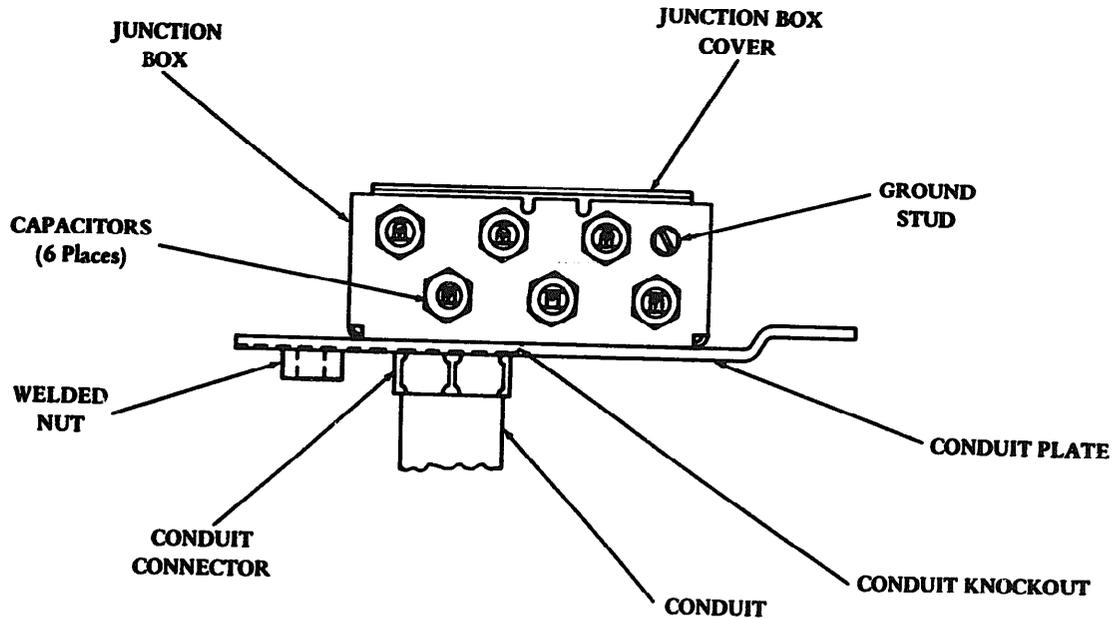
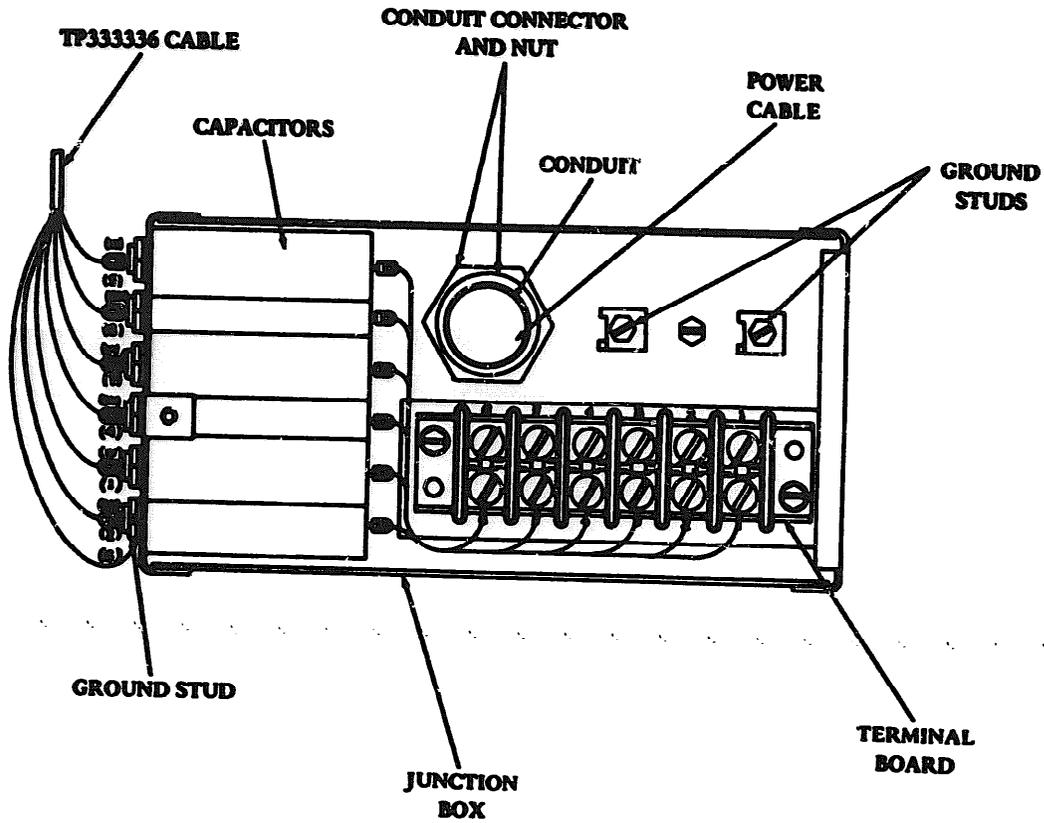

Figure 5 - Junction Box and Conduit Plate Connection
Figure 6 - Junction Box Components
3.08 Place TP333343 junction box assembly over conduit plate and align 3/4 inch hole in box with 3/4 inch hole in conduit plate, on the inside of cabinet (refer to Figure 5). Install 3/4 inch conduit connector into the 3/4 inch opening of conduit plate and junction box. Place connector locknut over thread of connector inside junction box and tighten securely (refer to Figure 6).